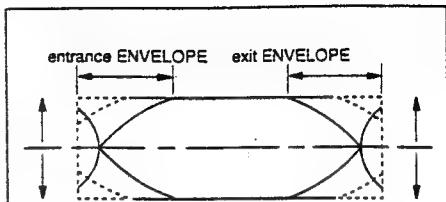

Fig. 2-13
B. Switch the REVIEW mode to the PLAY mode. Make sure state within 3 seconds as shown in Fig. 2-13. If it does not rise within 3 seconds after servo locking adjust as follows.
a. Play back the Alignment Tape which has the stairstep (or monoscope) signal, looking Envelope Waveform, make sure that ⑪ & TGuide Roller's height is adjusted correctly.
A. Record video signals (color bar or monoscope on T-120 Tape) and make sure the playback envelope output meets the specification as shown in Fig. 2-13.